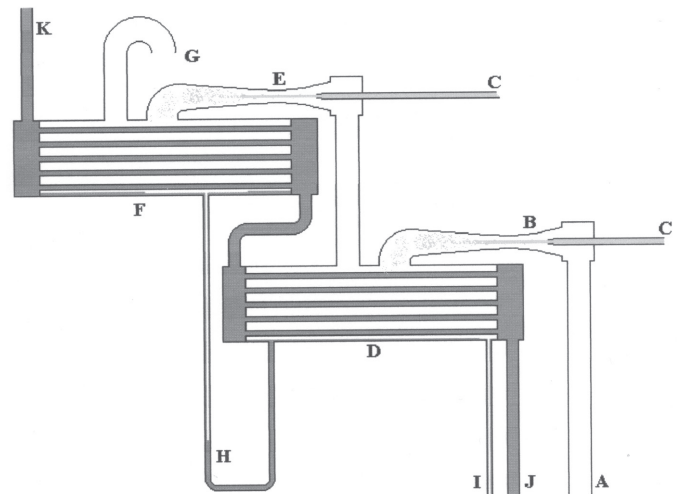

Figure 10-94. Dual jet ejectors for a condenser
When ejectors are combined, or staged, as for a condenser ejector (Figure 10-94) they can produce an almost pure vacuum. The steam to the jets (C) entrains the air drawn from the condenser at (A) accelerating it through the venturi (B) to the first stage condenser (D) where the steam is condensed by the condensate pumped up from the condenser (J). Another jet draws the air from the first stage, accelerating it to a higher pressure through the venturi at (E) then into the second stage condenser (F). After the steam from the second ejector is condensed the air is vented into the boiler room a (G). The condensed steam drains from the second stage condenser through a liquid trap (H) into the first stage condenser. The liquid trap separates the two different pressures, the second stage being around atmospheric and the first stage being something in the range of 8 to 20 inches of mercury vacuum. The combined condensate in the first stage drains to the condenser through another liquid trap. A steam powered ejector can also lift water out of a vault even when it's hot and flashing because it will pump the flash steam.
For maximum power generation the condenser must operate under a vacuum so non-condensable gases and any air that might leak in must be removed from the condenser. That's typically done with a steam jet ejector but may also be accomplished with motor driven vacuum pumps. The steam jet ejector (Figure 10-94) is usually two or more stages to pull as much vacuum as possible. The steam used to eject the air is then condensed in a heat exchanger using condensate. The actual vacuum achievable is dependent on the temperature of the cooling water or air but 27 inches of mercury is a typical value to shoot for. At that pressure the steam will condense at 92°F.